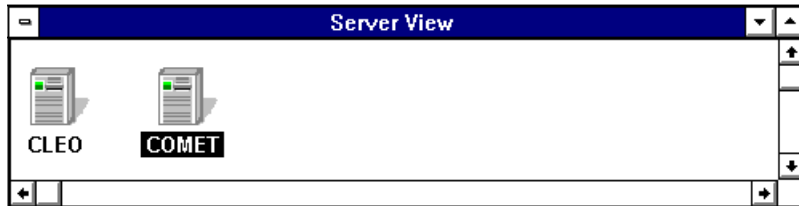

Figure 8-1. Server Icons
- Click the icon of the server whose arrays and spares you want to configure, as shown in Figure 8-1. You can identify the server by the name that appears beneath it.